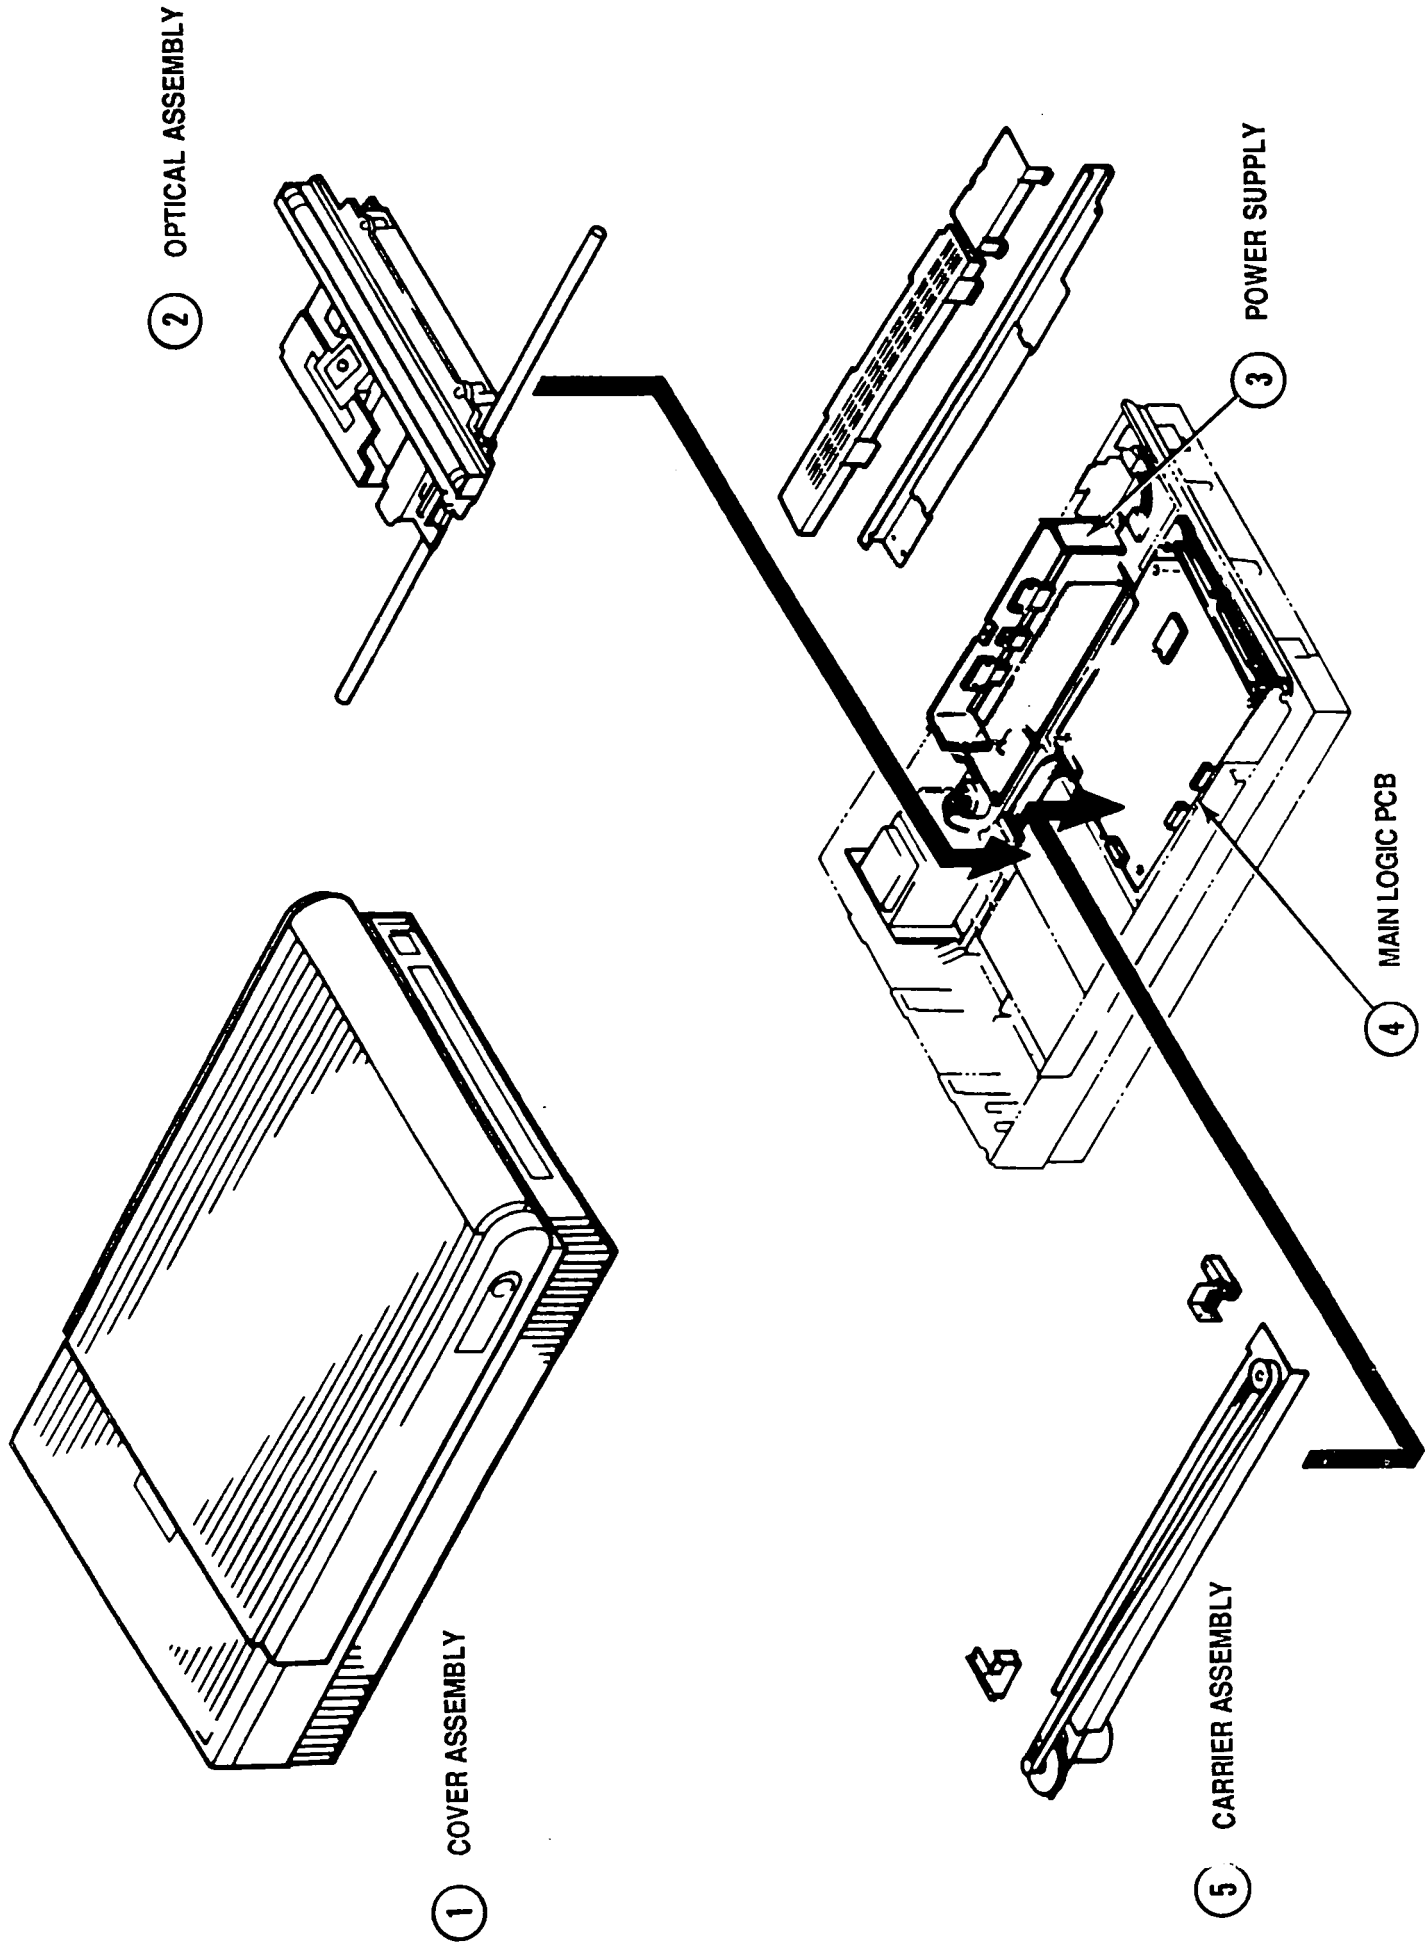

FIGURE 1
- IPL.5 Parts Location (Figure 1)
□ PARTS LOCATION (Figure 1)